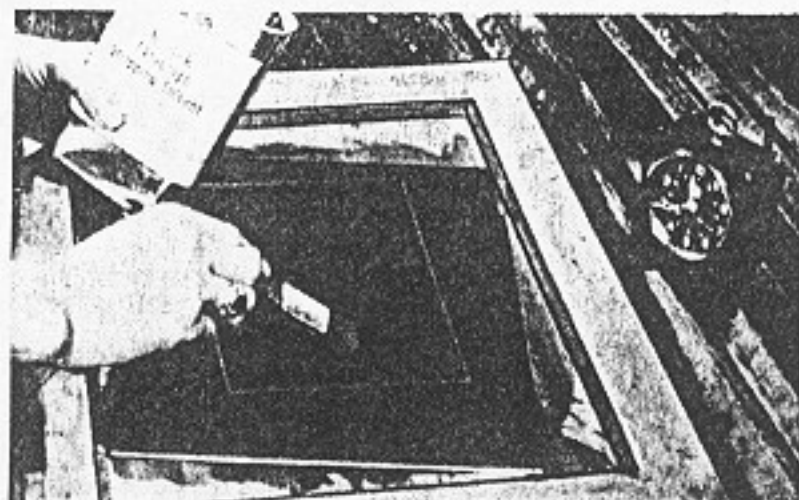

Fig. 153. Moisten Both Sides With Stripping Solvent
6. When the film is completely dry, both sides are liberally moistened with a special *stripping solvent*, Fig. 153.